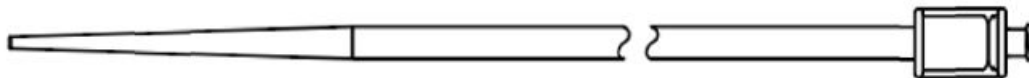

Figure 3: Vessel Dilator
- one vessel dilator (Fig 3) with hydrophilic coating that is used to dilate the vessel to accommodate the sheath.